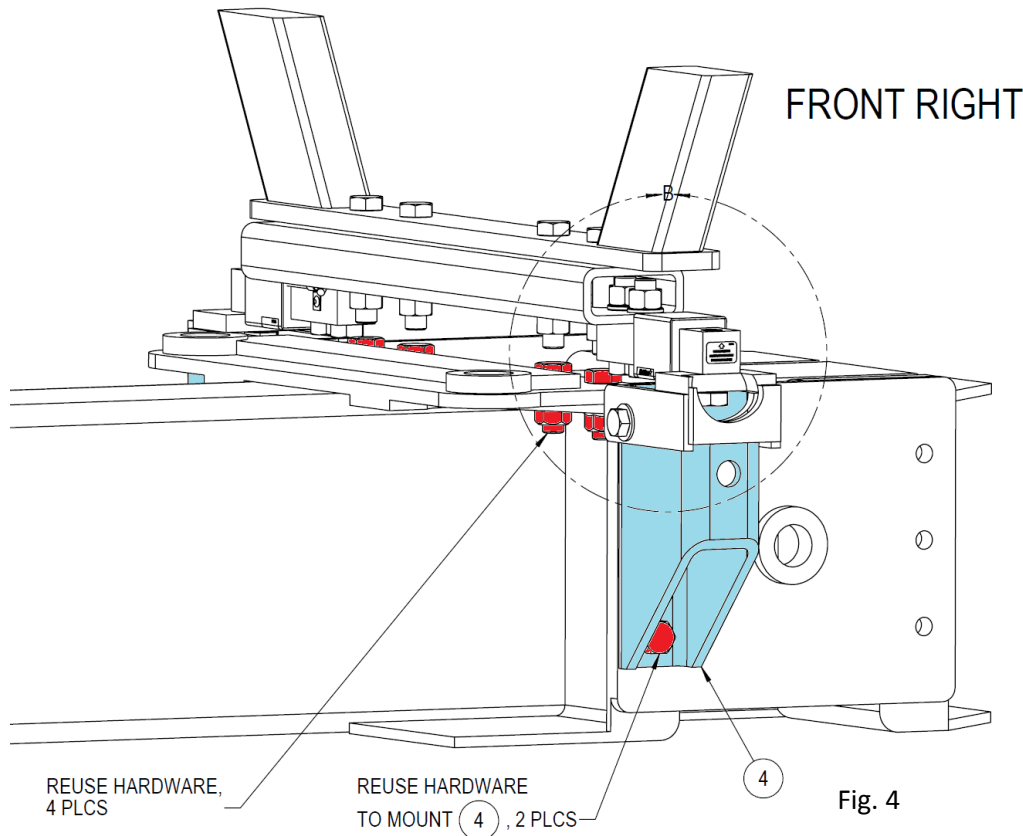

Fig. 4
- Reinstall the four 3/4" hardware on the frame that you removed on the front leg. (Refer to figure 4).
- Install the front lower support (408766) on each side of the frame utilizing the existing hardware to bolt the support to the frame. (Refer to Figure 4) Tighten the bolts.